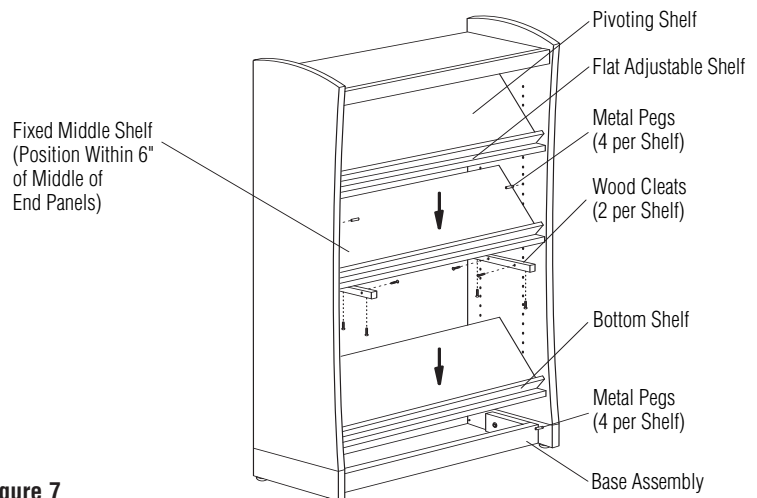

Figure 7
11. Fixed center shelf. For 60", 72", 82" and 96" high units, measure up half way on the end panels. Within 6" of this dimension, determine desired shelf location. Attach wood cleats to the bottom side of the fixed shelf using #8 x 1/4" screws. One cleat is needed for each side of shelf. Rest shelf on four metal pegs. Attach fixed shelf with cleats to the end panels using #8 x 1/4" screws (Figure 7).
12. Bottom shelf. Insert (4) metal pegs into pre-drilled holes just above the base assembly. Lay bottom shelf with routed side down and align onto metal pegs (Figure 7). Repeat for each unit.
13. Adjustable shelves. Insert (4) metal pegs into pre-drilled holes at desired adjustable shelf heights. Set each shelf onto the metal pegs with routed side down. Routed grooves rest on pegs. Repeat for each adjustable shelf (Figure 7).